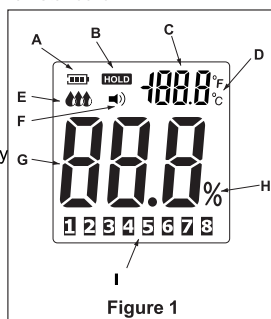

Figure 1
1. Display instruction: see Figure 1